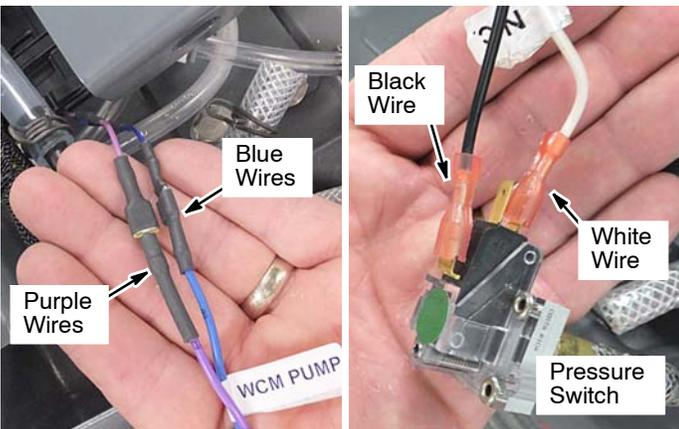

Fig. 30
- Connect the ec-H2O harness wires (G, H) to cartridge pump and pressure switch as shown (Figure 30).
- Connect the two routed ec-H2O solution hoses to module as shown (Figure 30).